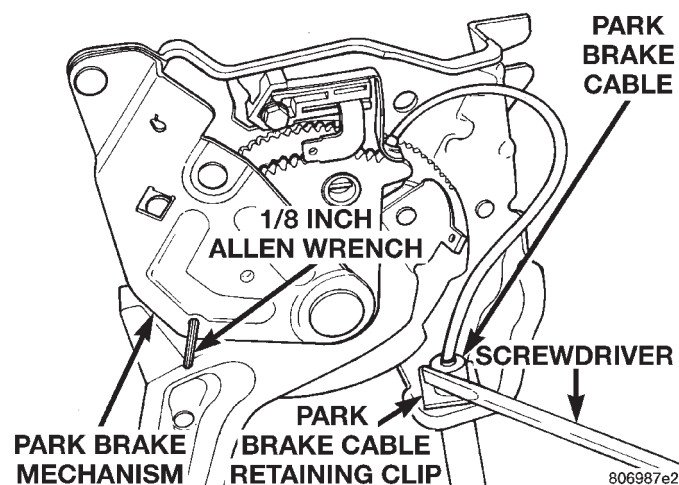

Fig. 102 Park Brake Cable Retaining Clip
(10) Remove park brake pedal from vehicle. Mount park brake pedal assembly in a vise. Remove front park brake cable to park brake assembly retaining clip (Fig. 102).